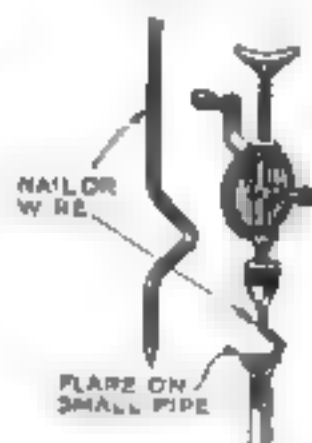

Fig. 3. A bent finishing nail, used in a hand drill, makes useful tool for flaring a pipe end.
**C**ERTAIN types of gasoline pipe unions require that the end of the pipe be belled out into a smooth flare. Flaring the pipe can be done easily by the tool shown in Fig. 3. Take a finishing nail and bend a kink in it as illustrated. Cut off the head of the nail so it can be held in the chuck of a hand drill. The end of the pipe should be clamped in a vise, using grooved wood blocks to prevent crushing it. Rotating the nail will form a smooth flare on the end of the pipe. The turning motion should be slow and the pressure relatively heavy to obtain the best results.